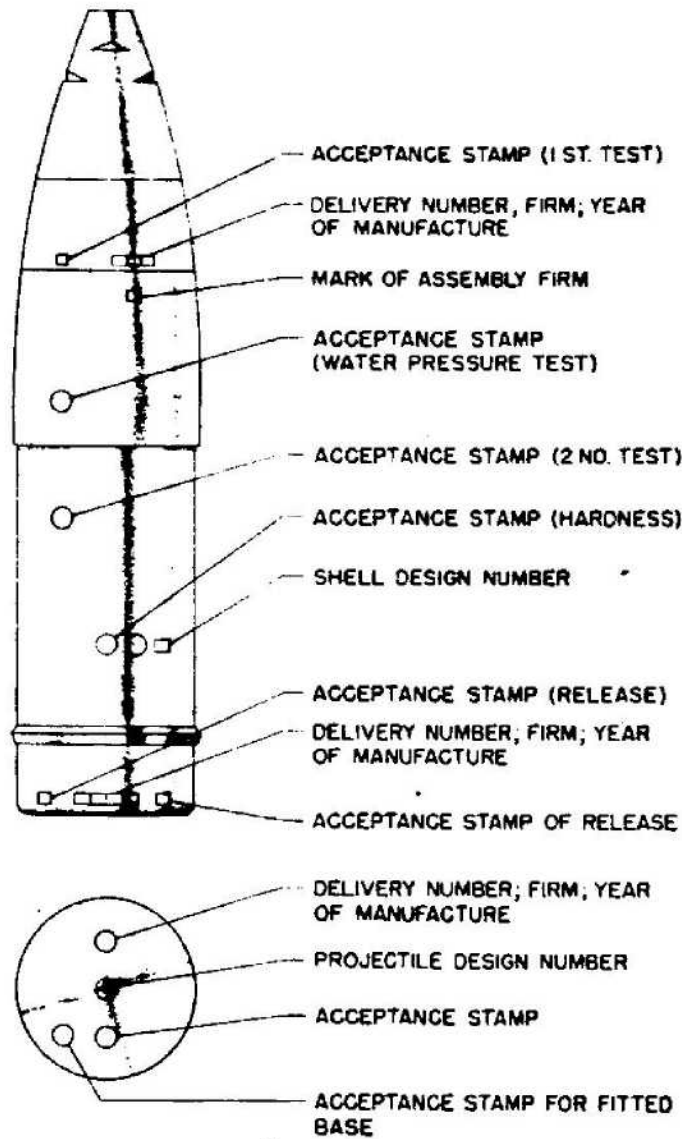

Figure 317—Projectile Stampings
**STAMPING ON THE PROJECTILE.** The following are stamped on the ogive in the order in which they appear. (See fig. 317.)